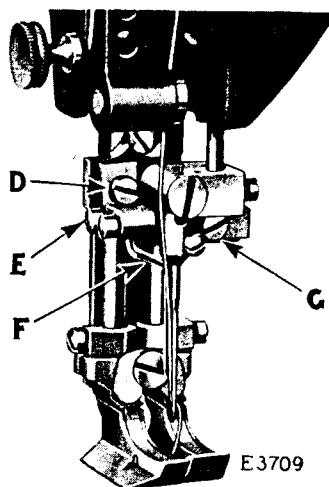

Fig. 9. Adjustment of Needle Holder
The piercer (F, Fig. 9) must be set according to the length of stitch and should be adjusted to enter the puncture made by the needle in the body of the goods. Should it be necessary to move the piercer to the right or left, loosen the screw (D, Fig. 9) and move the piercer holder to the right or left as required. Should it be necessary to move the piercer forward or backward, this can be done after loosening the screw (E, Fig. 9). When the piercer has been correctly adjusted, firmly tighten the screws (D and E).
screw (G, Fig. 9) and moving the needle holder to the right. To decrease the width of bight on the hem, move the needle holder to the left. When the desired width of bight on the hem is obtained, tighten the screw (G).